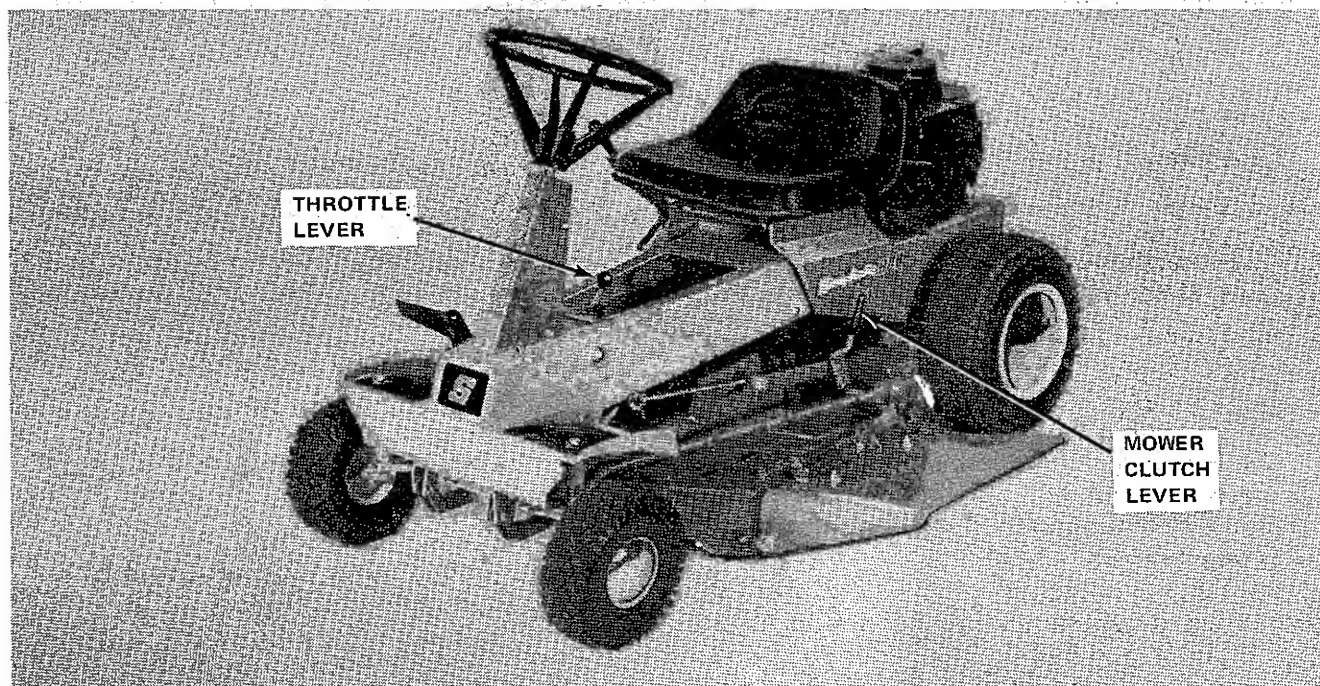

Figure 3-3. Left Side Operation Controls
2. Throttle Lever (Figure 3-3). Move lever FORWARD to increase speed and toward REAR to slow speed. Mowing should be done at 3/4 to full throttle.
6. Mower Clutch Lever (Figure 3-3). When mower is engaged the clutch lever is forward and down. Engine